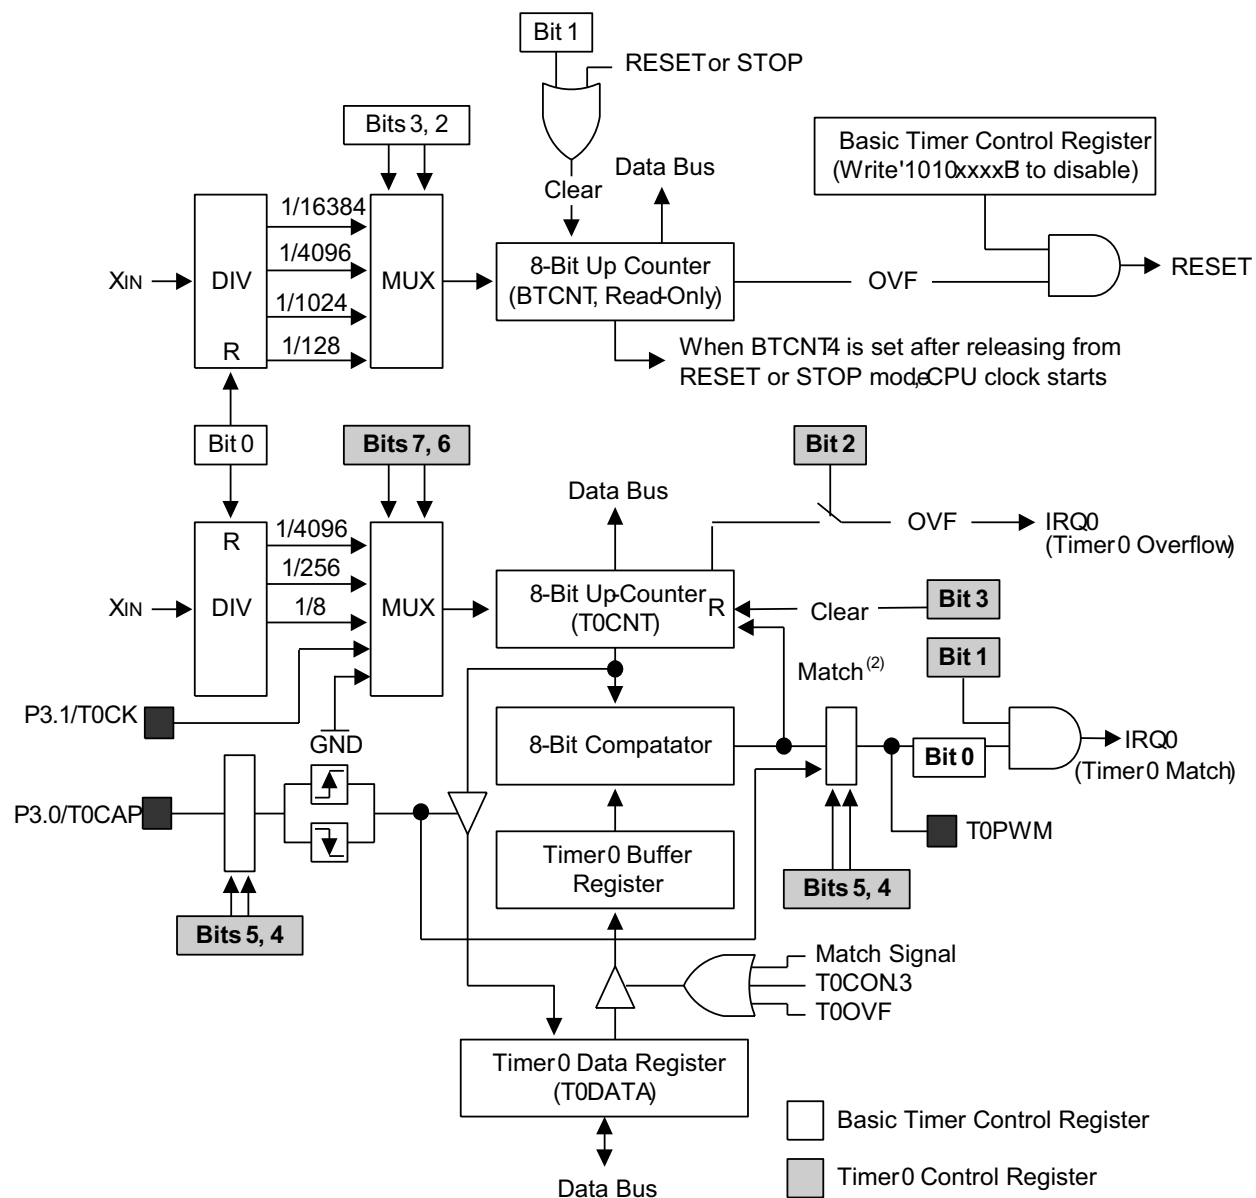

Figure 67. Basic Timer and Timer 0 Block Diagram
The S3F80P5 MCU contains two default timers: the 8-bit basic timer and the 8-bit general-purpose timer/counter. The 8-bit timer/counter is called *Timer 0*. A block diagram of the basic timer and Timer 0 is shown in Figure 67.
- **Note:** In reference to Figure 67, and during a power-on reset operation, the CPU is idle during the required oscillation stabilization interval (until bit 4 of the basic timer counter overflows).